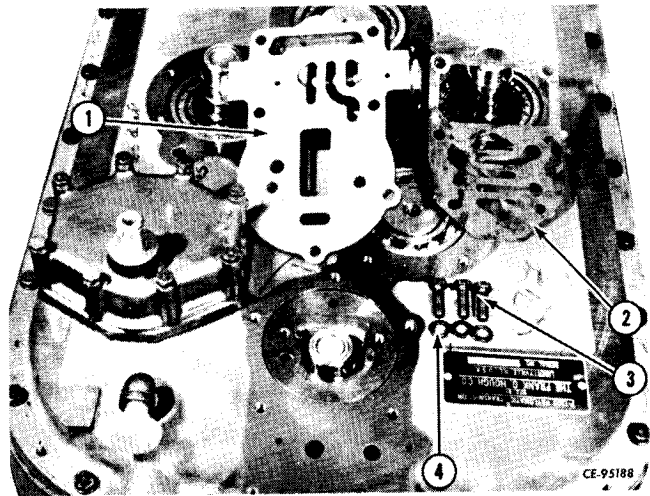

Figure 4-23
Remove neutral knockdown valve (1, Fig. 4-23) by removing remaining cap screws (3), washer (4) and gasket (2). For further disassembly of valve, see "NEUTRAL KNOCKDOWN VALVE." Discard gasket.